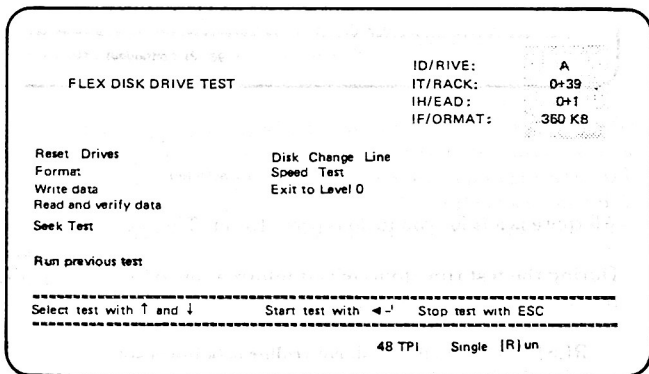

Figure 3-7 Initial menu
5. The menu shown in Figure 3-7 is now displayed.